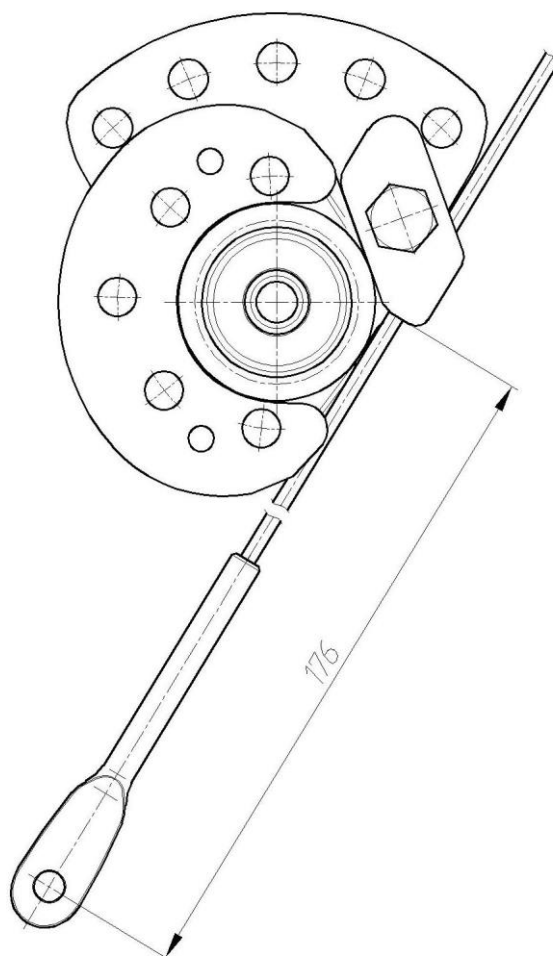

Fig. 5
- 3.3.2 Fix the control cables on the new control sectors (No. 1R and 1L) using the cleats as shown on fig. 5. (right-hand shown, left-hand – mirror view).